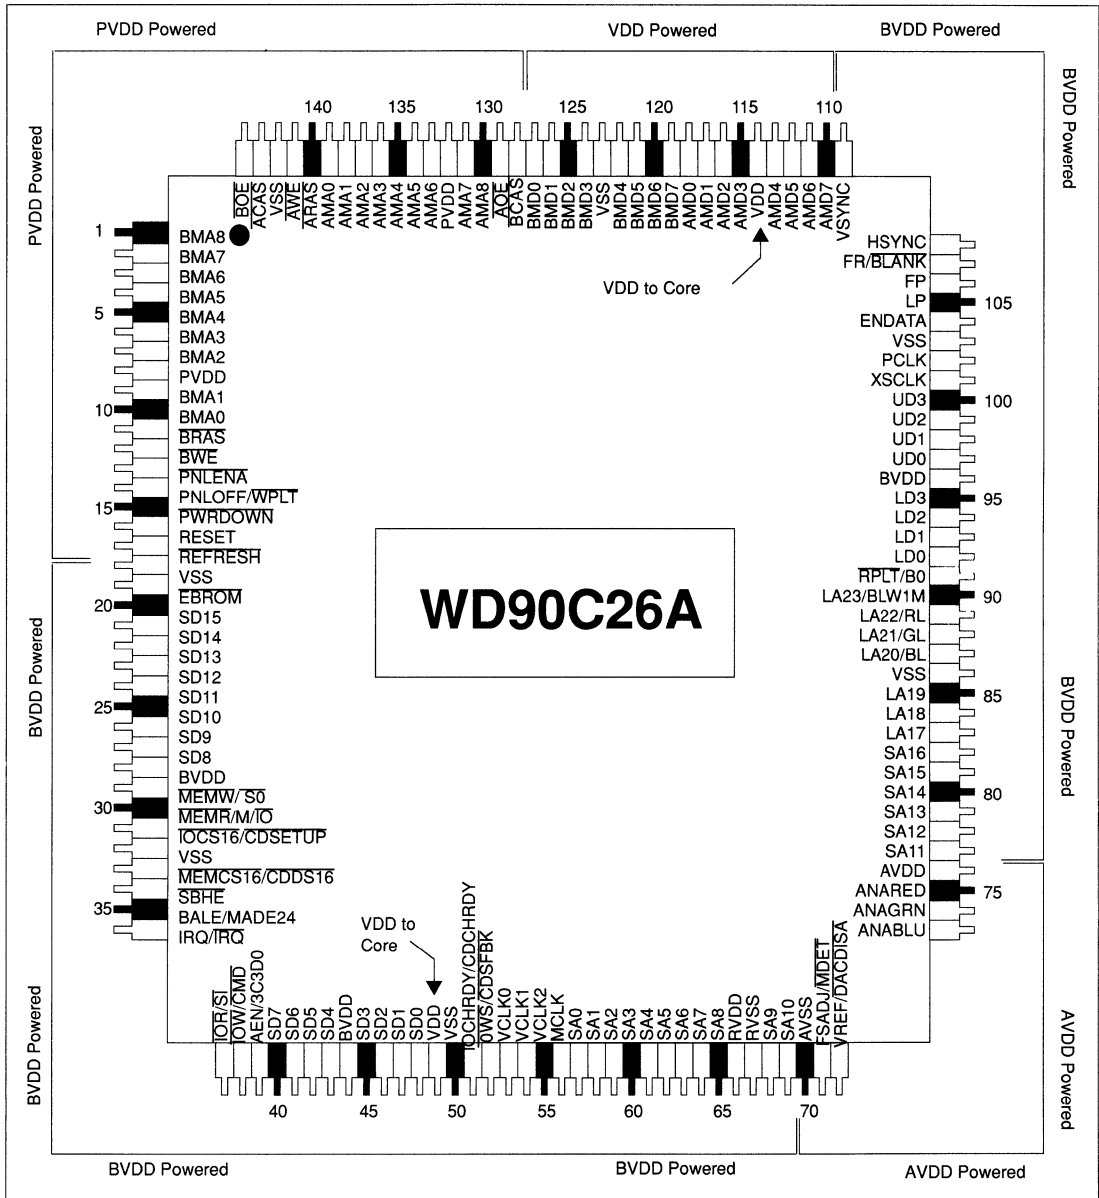

FIGURE 6-1 POWERING OF WD90C26A I/O PINS
- Powering of WD90C26A I/O Pins (Figure 6-1)